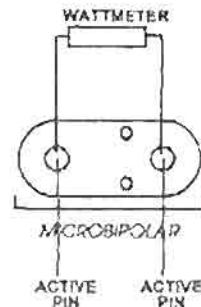

Figure 3-48. Test circuit.
(2) Connect a wattmeter with a 100-ohm load across the active pins of the "MICROBIPOLAR" receptacle (fig 3-48).
(3) Depress the white "READY" keyboard switch.
(4) Observe the control panel. The following control panel actions will automatically occur.
(5) Depress the white "BIPOLAR" keyboard switch.